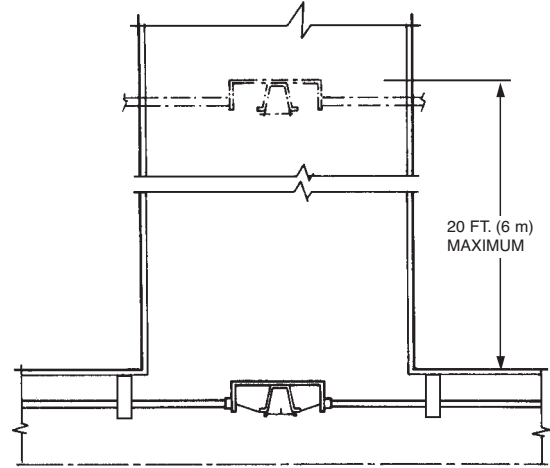

FIGURE 98
- Each exhaust duct must have at least one detector installed in the duct entrance, located in the airstream of the cooking vapors, or at a maximum of 20 ft. (6.1 m) into the duct opening. See Figure 98.